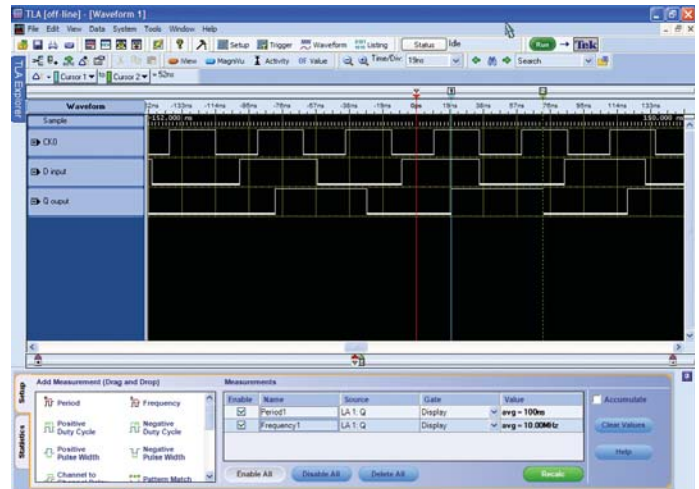

Figure 23. Sample rate in relation to resolution.
- Since the Y axis of the display denotes time, the subtractive difference between Cursor 2 and Cursor 1 is the time measurement. The result of 52 ns appears in the "Delta Time" readout on the display. The resolution of the measurement depends on the sample rate; in Figure 23 it is 2 ns as indicated by the ticks on the Sample track. Notice that the "Delta Time" measurement can not have a resolution greater than the sample rate.